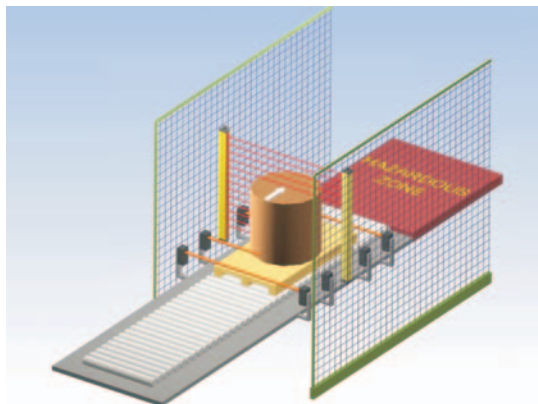

Figure 3a
- For a short period of time, the four (4) muting sensors must all be interrupted ... with transfer of the muting function from sensors S1 - S2 to S3 - S4).
- An opaque cylindrical object, having a diameter of  $D = 500$  mm, must not activate the muting function (see Figures 3a and 3b).